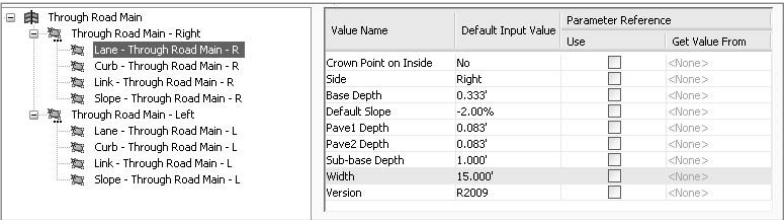

Figure 11.34
- 6. Switch to the Construction tab of the assembly properties dialog. Select the right Lane entry. Information about the lane will appear on the right side of the dialog, including the lane width. Change the Width from 13.5' to 15', as shown in Figure 11.34.